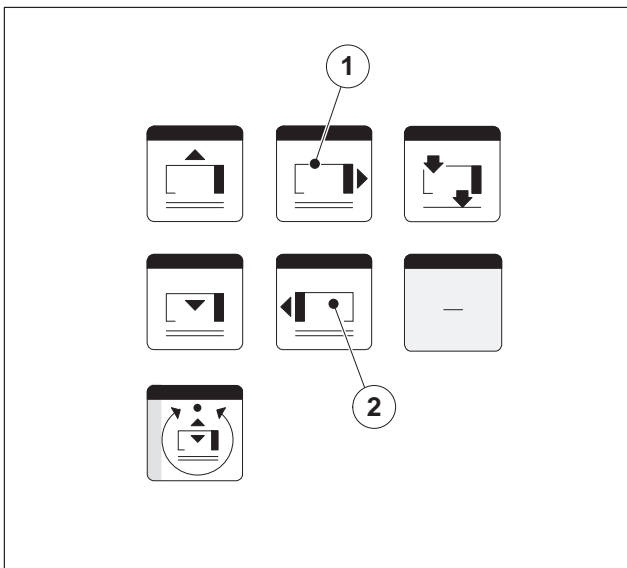

Fig. 18 Adjusting the button format
The control system positions the suction head according to the format input. If necessary, you can change this adjustment via the buttons (Fig. 18) on the feeder console.
- Press the *Increase suction head format* button (Fig. 18/1), to move the suction head away from the forwarding rollers.
- Press the *Reduce suction head format* button (Fig. 18/2), to move the suction head towards the forwarding rollers.